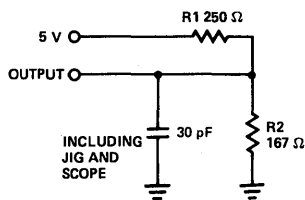

Figure 1a
7. Test conditions assume signal transition times of 5 ns or less, timing reference levels of 1.5V, output loading of the specified I_{OL}/I_{OH} and loads shown in Figure 1a, 1b.